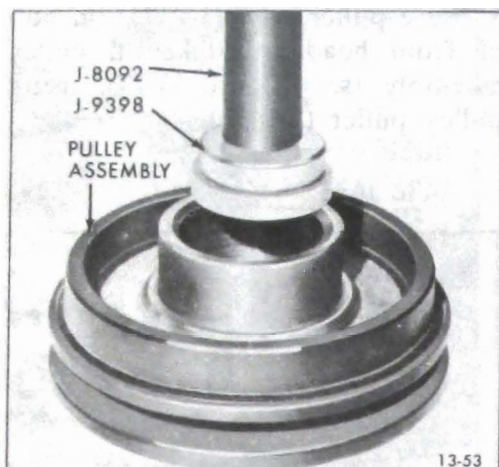

Figure 13-79 Removing Bearing from Pulley Assembly
5. Drive out bearing (see Figure 13-79) by use of puller Pilot (J-9398) and Handle (J-8092).